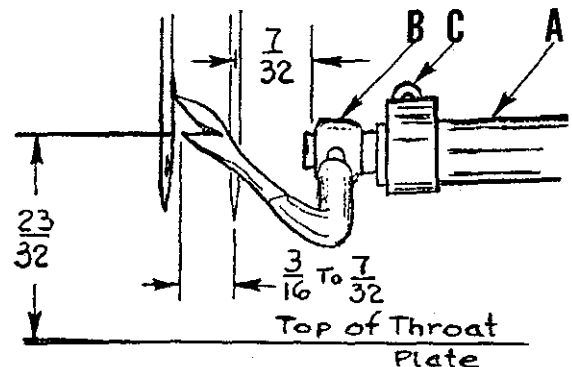

Fig. 6
If spreader gauge is not available to set the spreader, turn the handwheel in the operating direction until the spreader bar (A, Fig. 6) is in the extreme left position. Set the spreader holder (B) in the spreader bar so the left end of the holder is  $\frac{7}{32}$  inch to the right of the center of the right hand needle (Fig. 6), and tighten collar screw (C). Looper gauge 21225- $\frac{7}{32}$  can be used for this setting. **DO NOT CHANGE THIS LATERAL SETTING OF THE HOLDER.**
With the spreader in this position, rotate the spreader about its shank so the point closest to the operator is between  $\frac{3}{16}$  and  $\frac{7}{32}$  inch to the left of the center of the needle and approximately  $\frac{23}{32}$  inch above the throat plate (Fig. 6). Turn the handwheel in the operating direction and check clearance between the bottom point of the spreader and the lower looper. The spreader point should cross the top of the looper to the left as close as possible to the eye and to the back of the looper without touching it.